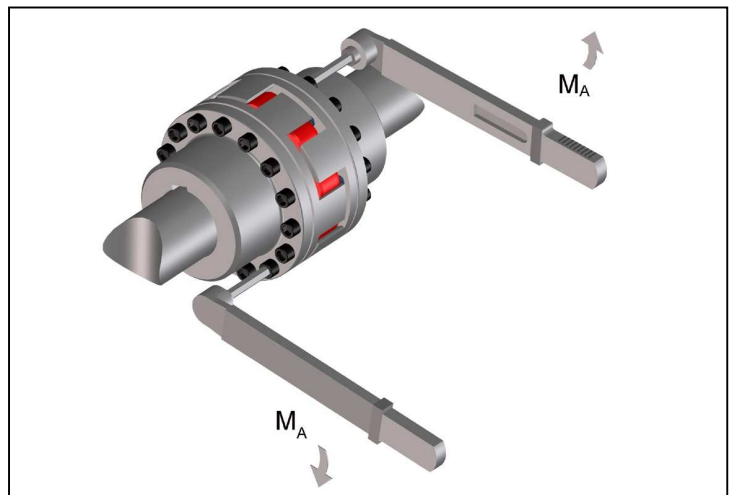

Fig. 6
- Tighten the screws to the tightening torque M_A specified in table 2 (Fig. 6).